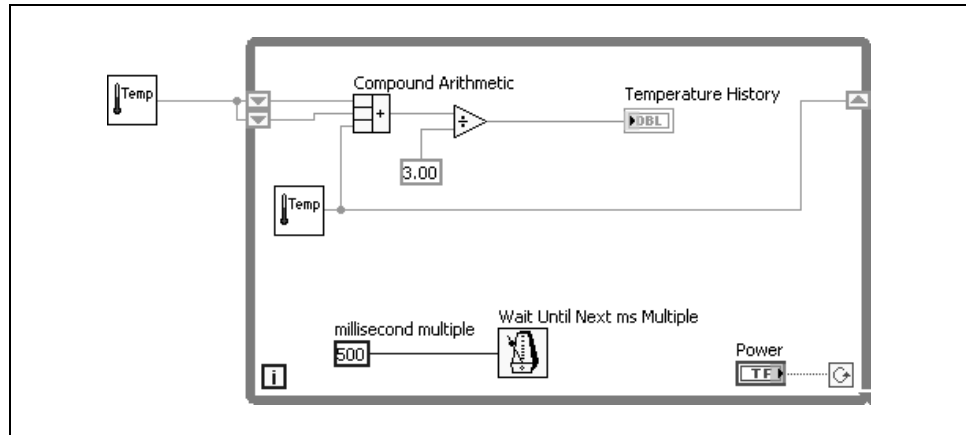

Figure 4-24. Average Temperature VI Block Diagram
4. Modify the block diagram as shown in Figure 4-24.
- Wire the functions together as shown in Figure 4-24.